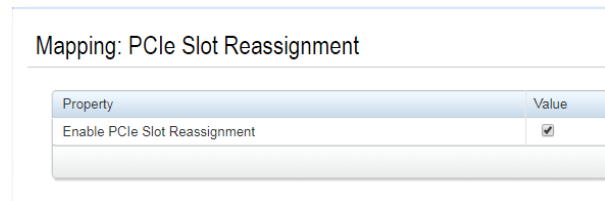

Figure 3: Reconfigure the iDRAC for alternative slot reassignment
- 3 Make sure the Enable PCIe Slot Reassignment box is checked. See Figure 3.